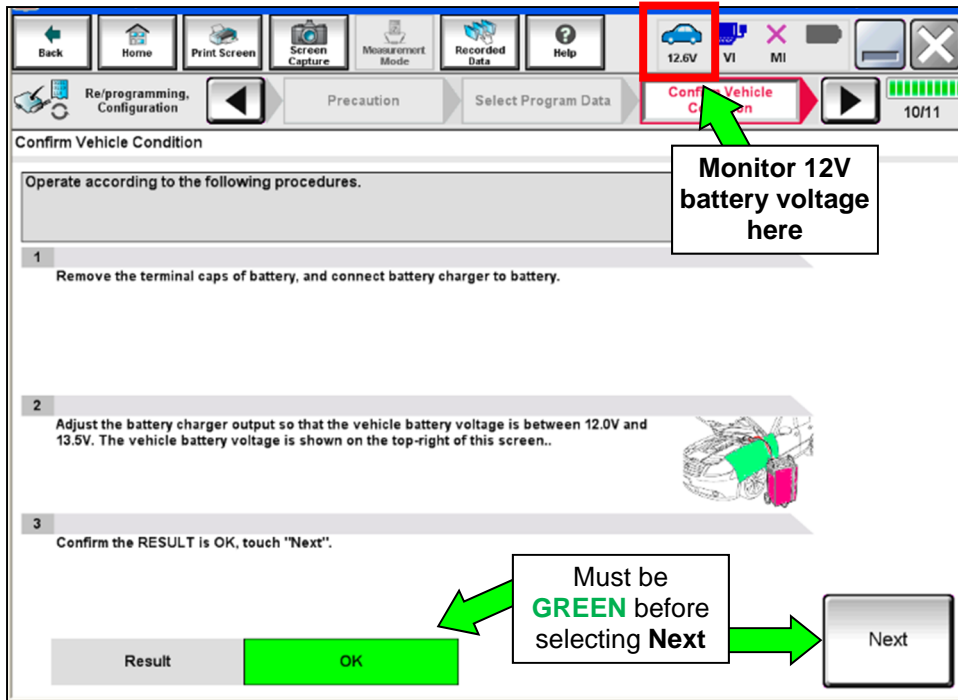

Figure 14
- If no **Saved Data List** is stored, Figure 14 will be displayed. Proceed to step 25 on page 10.